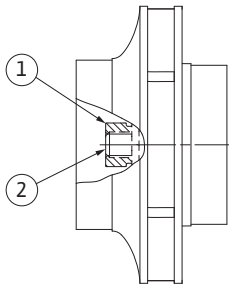

Fig. 53: Correct position of the impeller nut after the installation
29. Hold on to the shaft (see step 24) and tighten the impeller nut with the specified tightening torque (see list "Table 11: Screw tightening torques" on page 115). The nut (Fig. 53, Item 1) has to be about ± 0.5 mm flush with the end of the shaft (Fig. 53, Item 2). If this is not the case, release the nut and repeat steps 25 to 29.